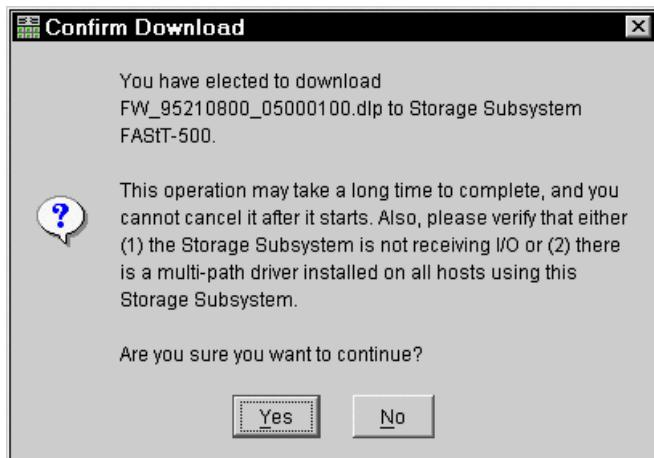

Figure 7-8 Confirm Download
- d. You see a window (Figure 7-8) where you have to confirm that all the requirements are met. Click **Yes** to confirm the download.